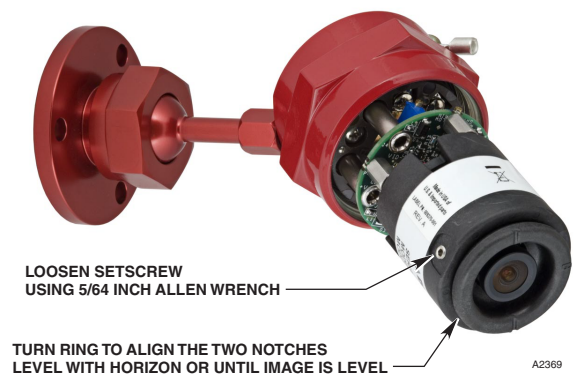

Figure 7—xWatch Camera Module
2. Loosen the setscrew on the side of the camera module. See Figure 7.